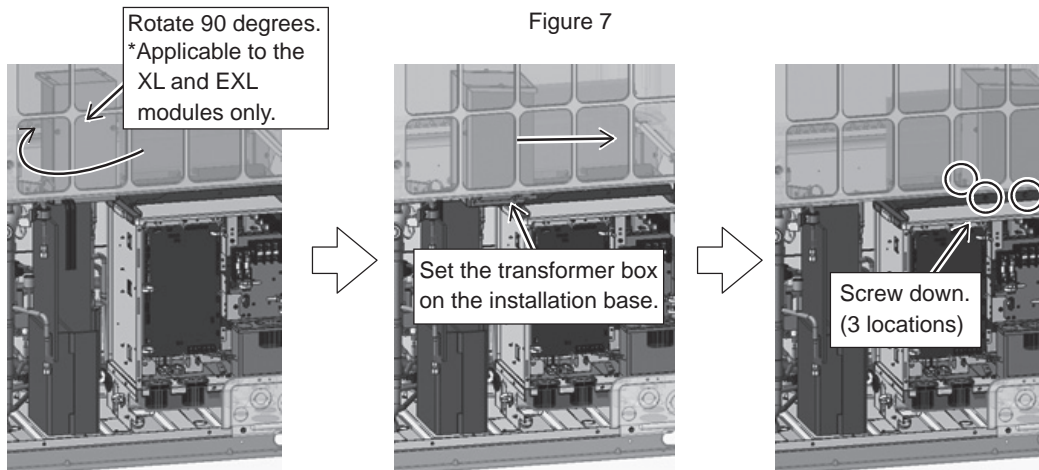

Figure 8
- (9) Lift the transformer box to the position as shown in the figure, rotate the transformer box 90 degrees (\*applicable to the XL and EXL modules only), move the box to the designated position, and screw it down. (3 screw as shown in Figure 8.)